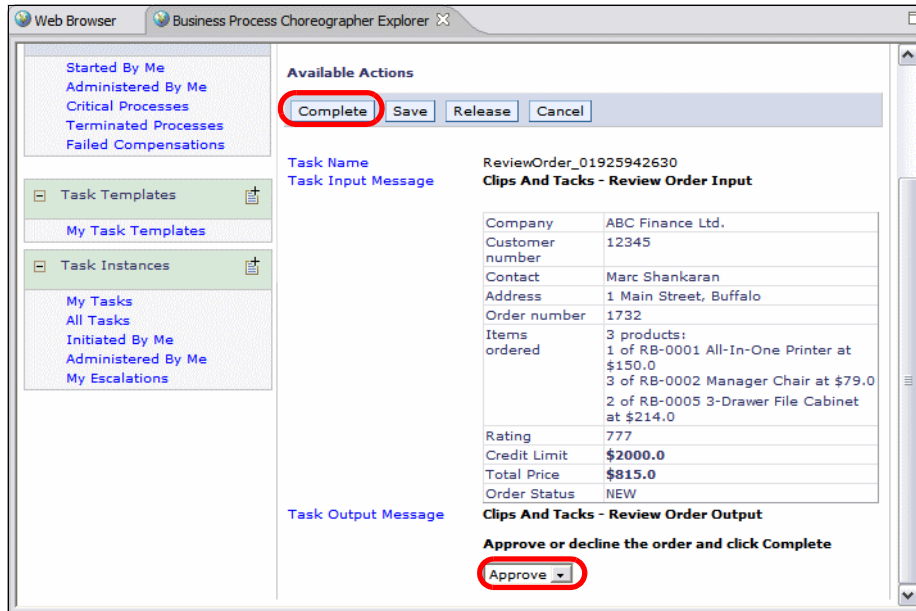

Figure 10-58 BPC Explorer: Custom JSPs for order review
- ▶ After clicking *Work on*, the custom JSP shows the input message and prompts to approve or decline the order (Figure 10-58).